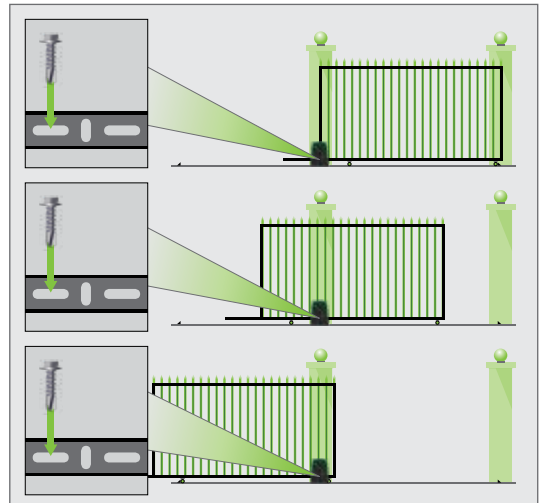

FIGURE 62
**Fit an additional fixing screw through the horizontal slots to secure the Rack to the gate directly above the Pinion when the gate is in the closed, pedestrian and open positions as shown in Figure 62.**